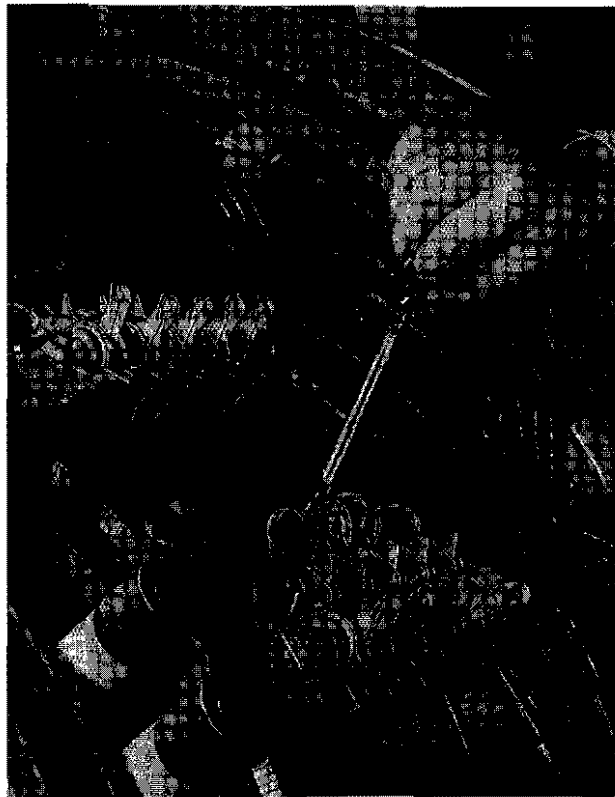

Fig. 4 - Measuring Brush Spring Tension
* The proper brush pressure should be maintained as specified under "Maintenance Data." It is important that all brushes be adjusted to the same pressure, as unequal brush pressure will cause unequal current distribution in the brushes. Measure the spring tension with the lever arm 1/8" above the top of the brush holder box. Refer to Fig. 4 for method of measuring brush pressure.